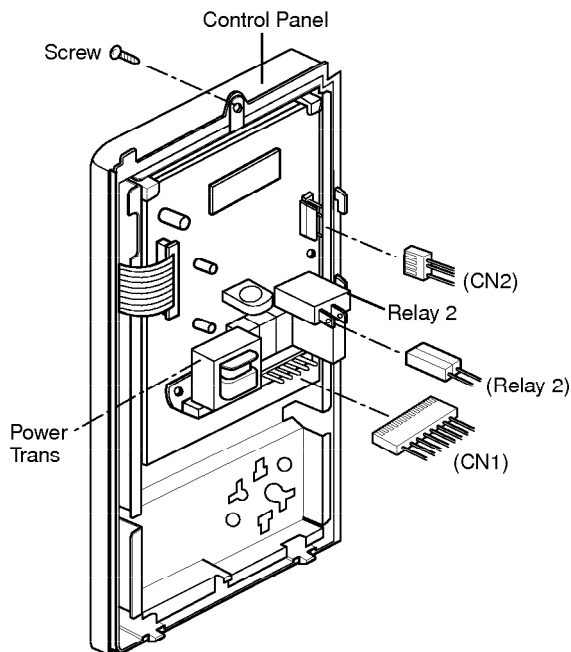

Figure 8
### A. REMOVING POWER AND CONTROL CIRCUIT BOARD (Figures 8, 9 and 10)
- (1) Remove 1 screw securing the control panel assembly to the oven cavity. (Figure 8)
- (2) Remove the control panel with pushing it upward.
- (3) Remove the two connectors (CN1, CN2) and wire leads (Relay2) from the circuit board.